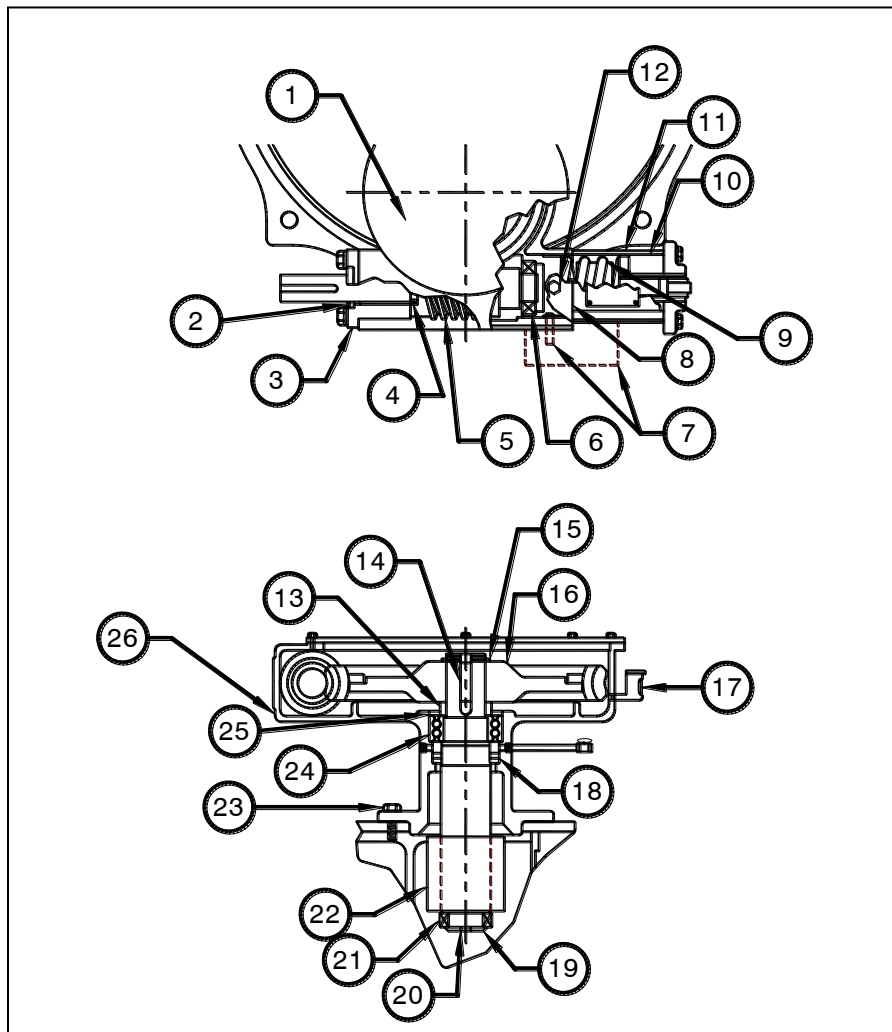

Figure 4.7d
- a. Remove the capscrews and end cap (11) in Figure 4.7d. Remove the spring seat (10) and the spring (9). Referring to the Worm Gear Assembly drawing, remove the "Centering Device" from the stop rod.
- b. Remove the capscrews, bushing housing (3), and oil seal (2) (Figure 4.7d).
- c. Remove the drive control and drive control pin (7).
- d. Remove the worm shaft (5) and bearings (6) by turning the worm shaft by hand so that the worm moves to the drive end. Remove the sliding bearing seat-stop rod assembly (8).
- a. If removed, screw the actuating pin into the drive control assembly (item 7), referring to Figure 4.7d. Torque the pin to 20-25 ft. lbs.